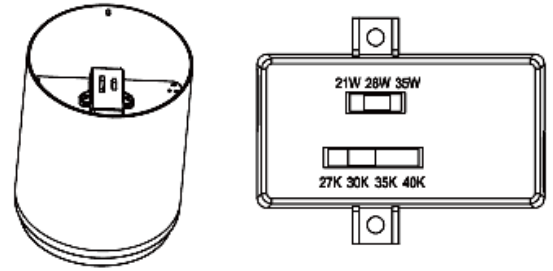

Fig. 10
2. Select your desired wattage and colour temperature using the switch that is installed in the cylinder. (Fig. 10)